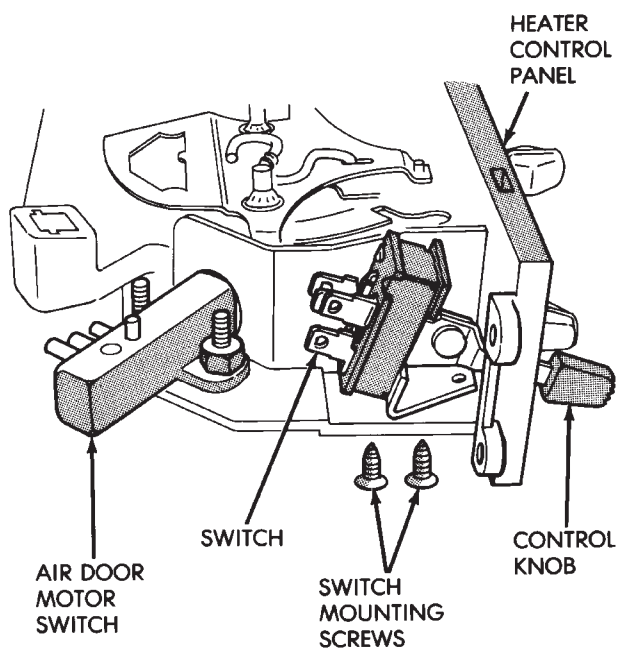

Fig. 5 Control Switches
- (1) Remove the heater control panel (Fig. 5).
- (2) Remove the air door motor switch.
- (3) Remove the control knob from the blower switch.
- (4) Remove the screws that attach the switch to the control panel.
- (5) Remove the switch from the control panel.